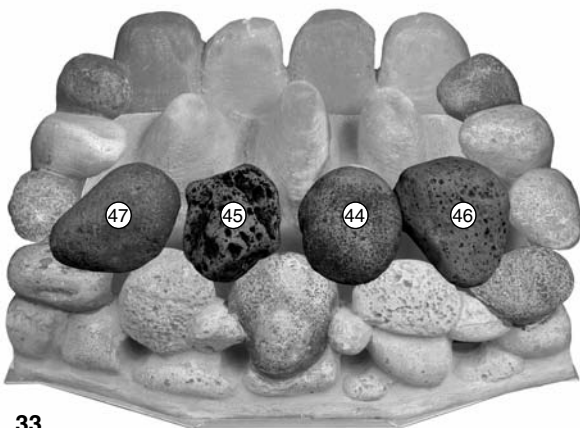

Fig. 33
5. Following Figs. 33 to 35, place the loose pebbles on to the fuel bed. It is important that the pebbles 'nest' together and sit on top of the fuel bed peaks.